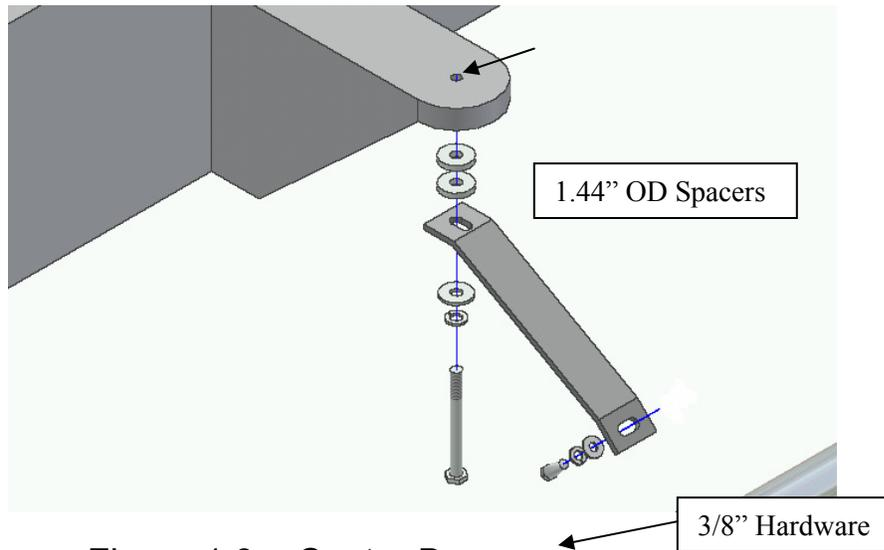
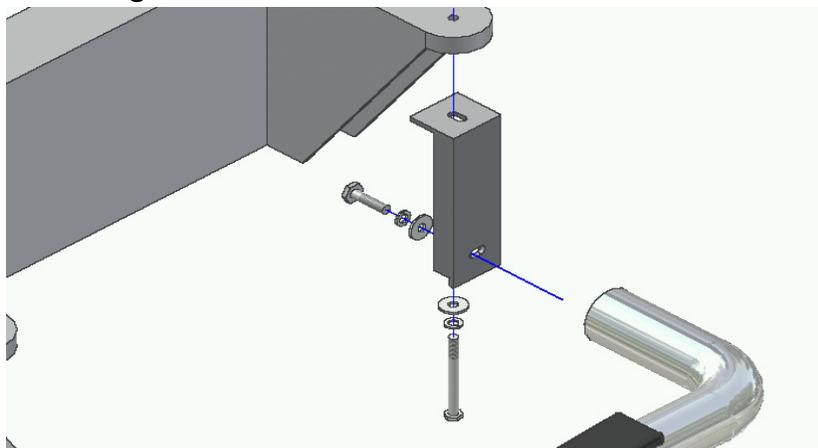

Figure 1.3 – Center Brace
Figure 1.4 – Rear Bracket
3. Attach and secure Rear Mount Bracket to underside of vehicles rear body mount as shown in Figure 1.4, in same manner as the front. Repeat for Center Brace, but insert (2) 1.44" OD spacer washers between Center Brace and center body mount (see Figure 1.3).
4. Attach Side Tube to Front and Rear Brackets using (1) 1/2" x 2" bolt, (1) 1/2" lock washer and (1) 1/2" flat washer for each bracket, and hand tighten. Fasten Center Brace to Side Tube using (1) 3/8" x 1" bolt, and (1) 3/8" flat washer. Adjust Side Tube so that it is level and centered, and tighten all bolts to complete the driver-side assembly.